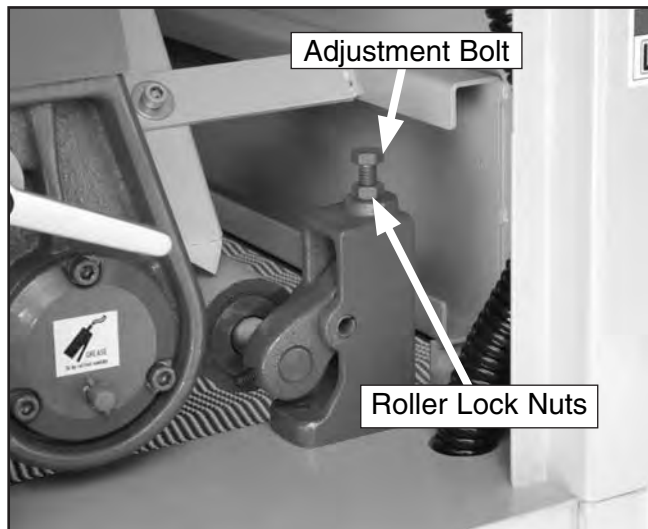

Figure 32. One pressure roller adjustment location.
6. Loosen the roller lock nuts (**Figure 32**) on the infeed pressure roller. Turn the Adjustment Bolts (**Figure 32**) to lower the pressure roller until it just touches the board.